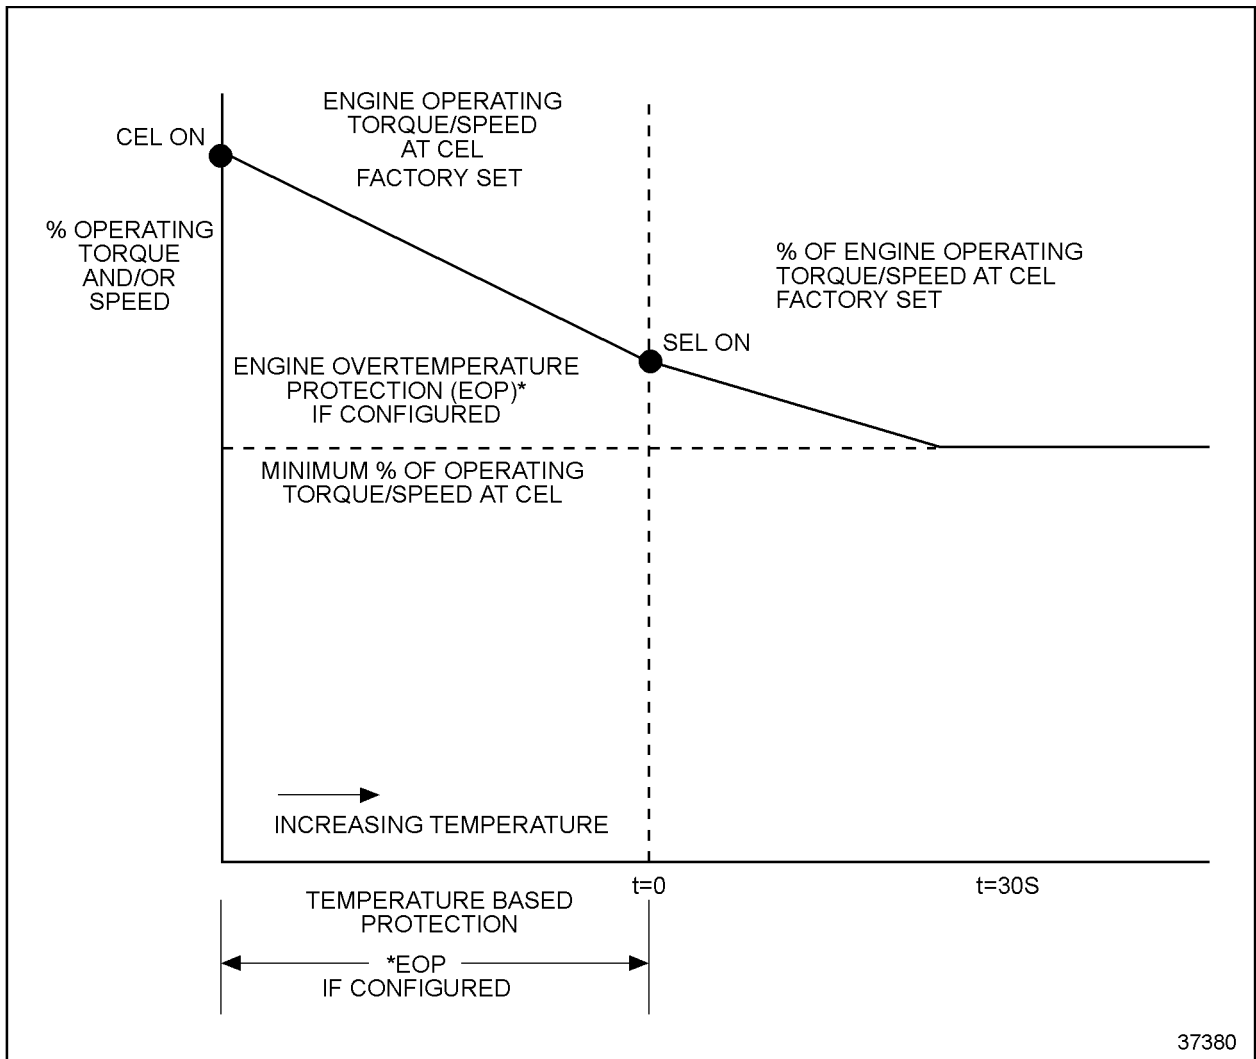

Figure 5-17 Engine Overtemperature Protection and Rampdown
- 30 second rampdown (see Figure 5-17)